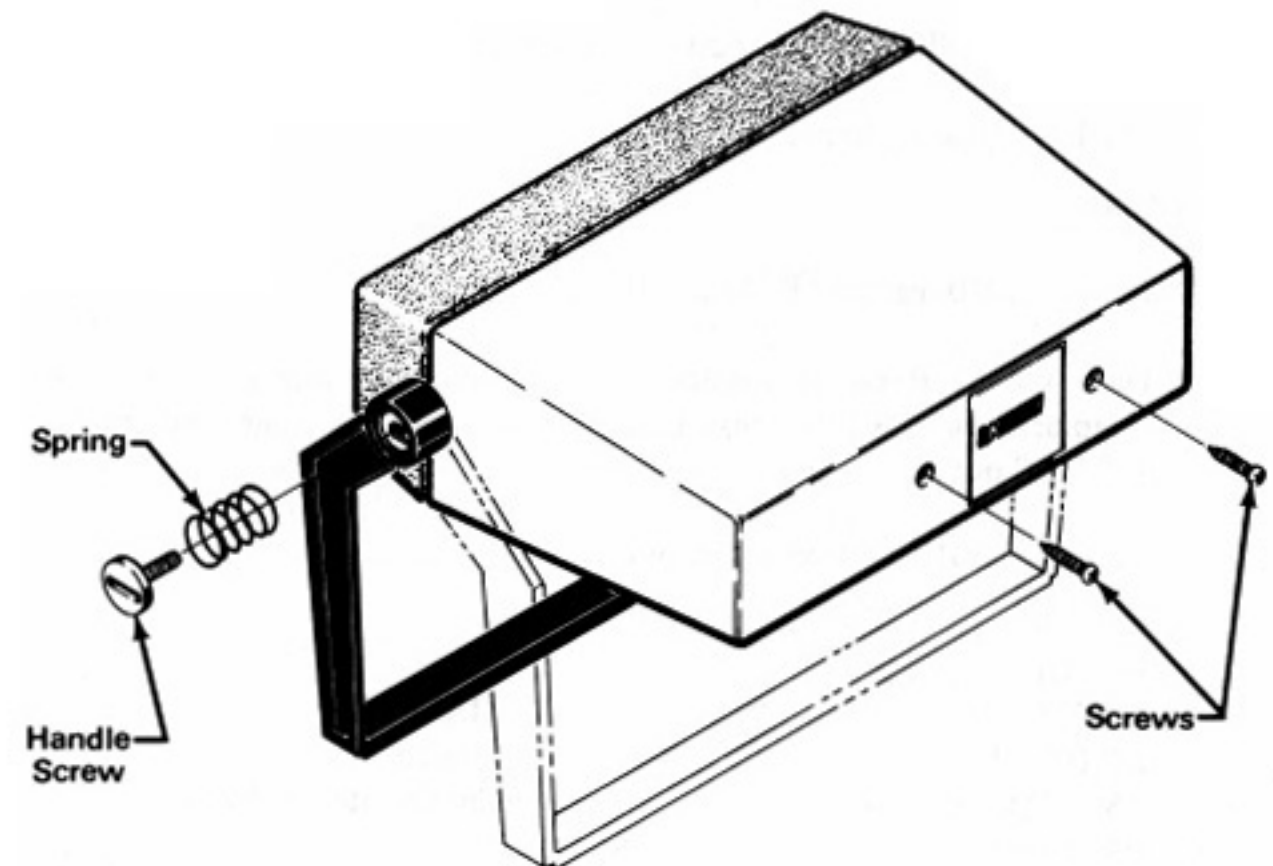

Fig. 17. Removal of rear case.
1. Use a coin (a quarter works best) to remove the two screws that hold the handle to the case. Use caution to avoid losing the springs beneath the screws that hold the handle on the case. Remove the handle. The handle may be reversed if the user desires; refer to Fig. 17.
1. Remove 3010 rear case Refer to Fig. 17.
8. Disconnect the scope probe and counter from the 3010 600 Ω OUTPUT. Carefully re-install the rear case (refer to Fig. 17)